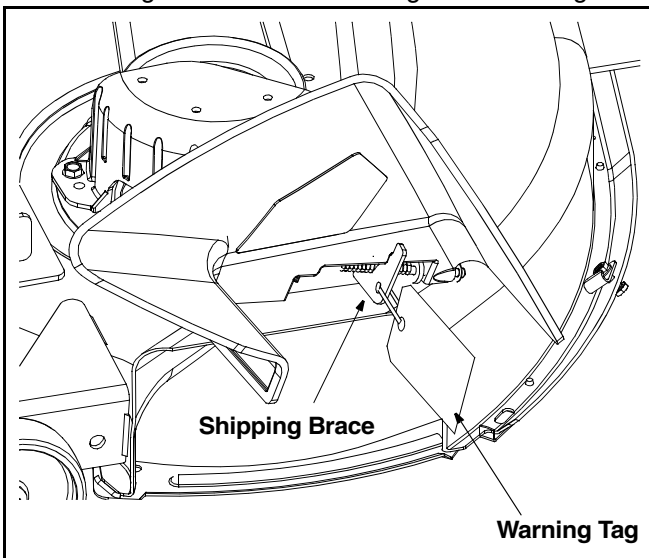

Figure 6
- Locate the shipping brace and warning tag found on the right side of the mower, between the discharge chute and the cutting deck. See Figure 6.